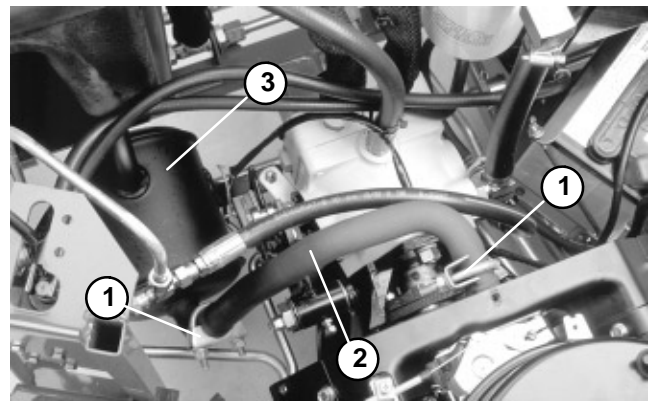

Figure 31
10. Remove both muffler clamps securing the exhaust tube to the muffler and exhaust manifold (Fig. 31).
11. Separate exhaust tube from the exhaust manifold. Separate exhaust tube from the muffler. Remove muffler through the bottom of the machine (Fig. 31).
2. Attach exhaust tube to the muffler. Attach exhaust tube to the exhaust manifold (Fig. 31).
3. Make sure exhaust tube fits snugly to both the muffler and exhaust manifold. Secure exhaust tube to the exhaust manifold and muffler with muffler clamps (Fig. 31).